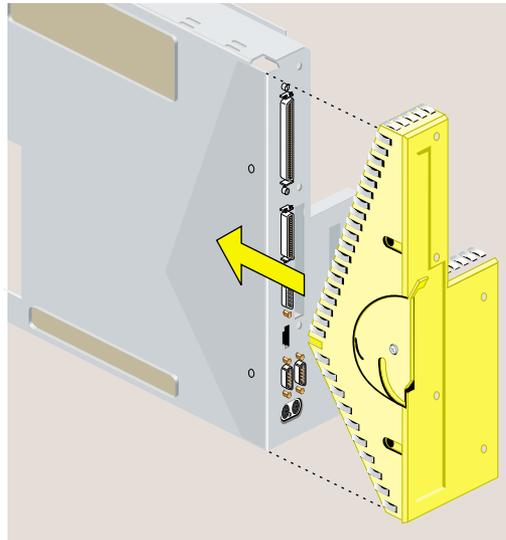

Figure 2-45 Replacing the Face Plate
2. Replace the face plate by sliding it onto the system module, while at the same time lifting the plastic at the “V” to snap it in place. When properly seated, the underside of the faceplate is flush to the module and the screw holes are aligned (Figure 2-45).